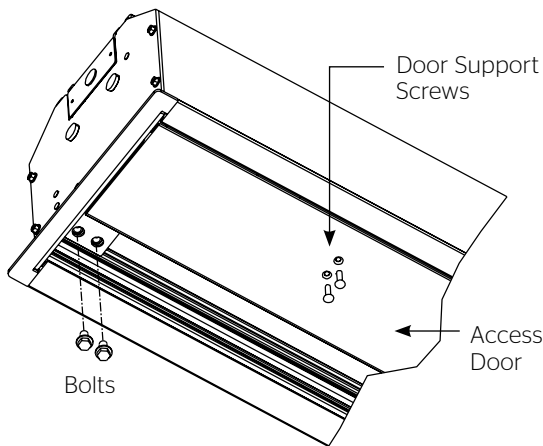

Figure 2
- Remove the access door. First, remove the 2 bolts from each end with a 9/16" open wrench or socket driver. Next, use a 5/32" hex key to remove the two screws in the center of the access door. This will allow the door to drop open on the hinges (Figure 2).